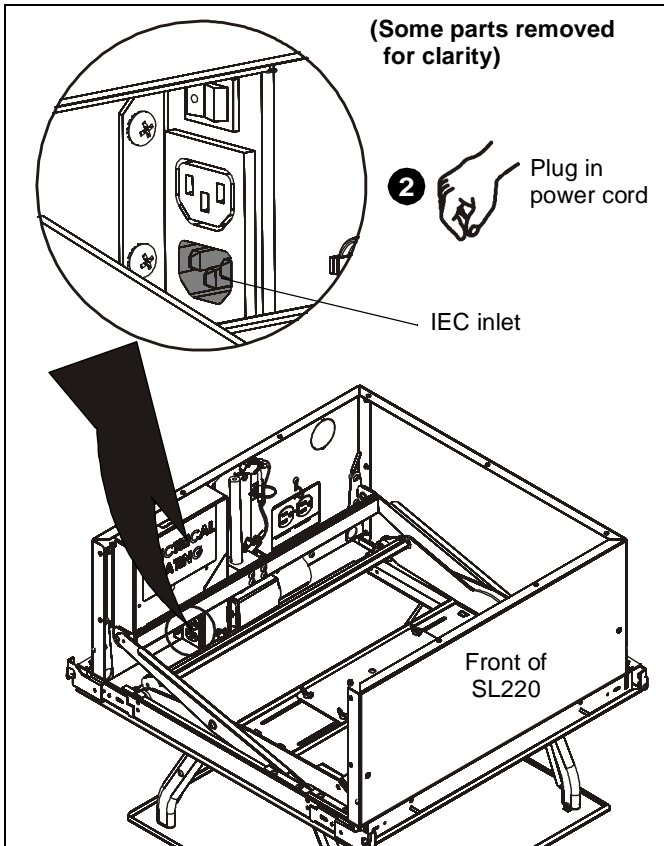

Figure 11
2. Plug power cord into IEC inlet on rear panel inside SL220. (See Figure 11)
4. Reconnect power cord to IEC inlet on rear panel inside SL220. (See Figure 11) Power cord must be plugged into outlet installed in the outlet box attachment plate. (See Figure 26)